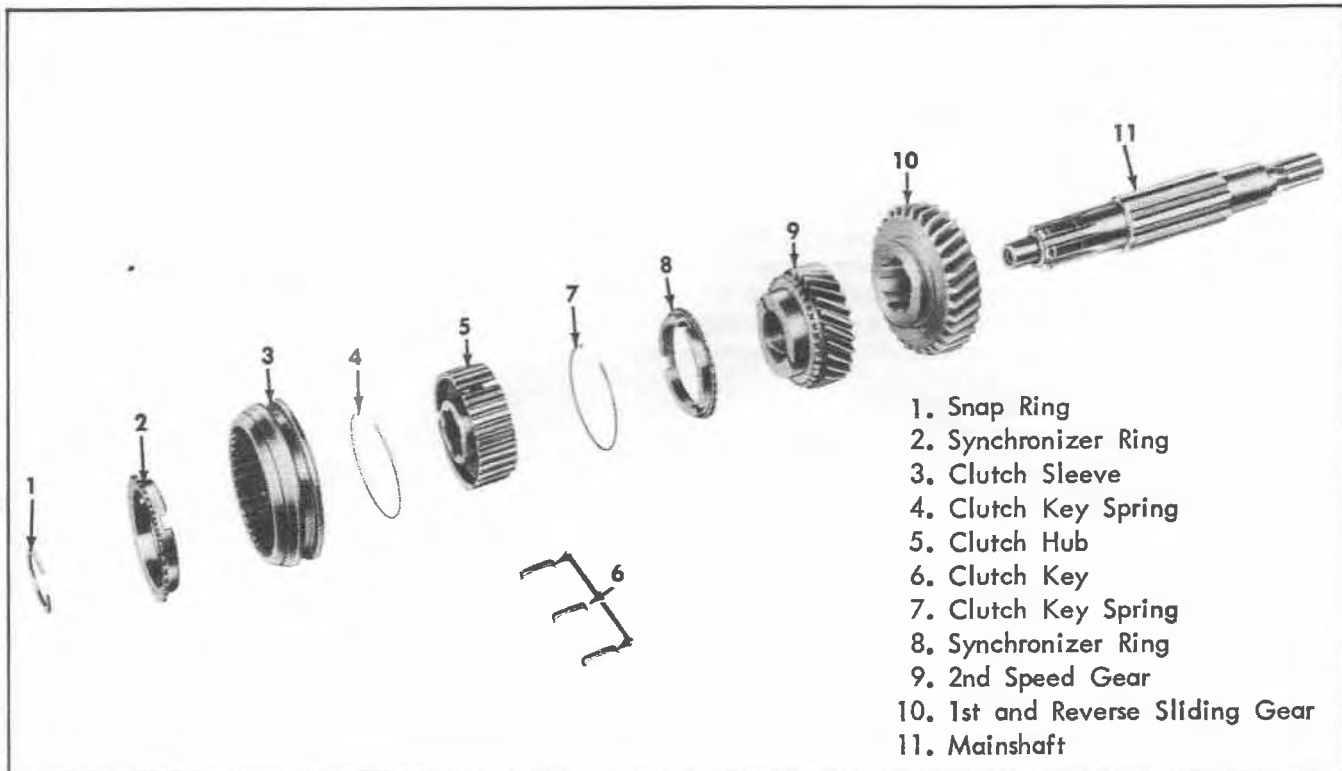

Fig. 14 Mainshaft and Gears Exploded View
2. If relationship of 2nd and 3rd speed clutch sleeve and 2nd and 3rd speed clutch hub are not marked, mark for assembly purposes. Remove 2nd and 3rd speed clutch sleeve from clutch hub and remove hub from mainshaft (Fig. 14).
9. Install sleeve, hub, and synchronizing cone assembly on mainshaft and secure with clutch hub retaining snap ring. Use snap ring pliers to install snap ring (Fig. 14). Make synchronizing cones turn freely.